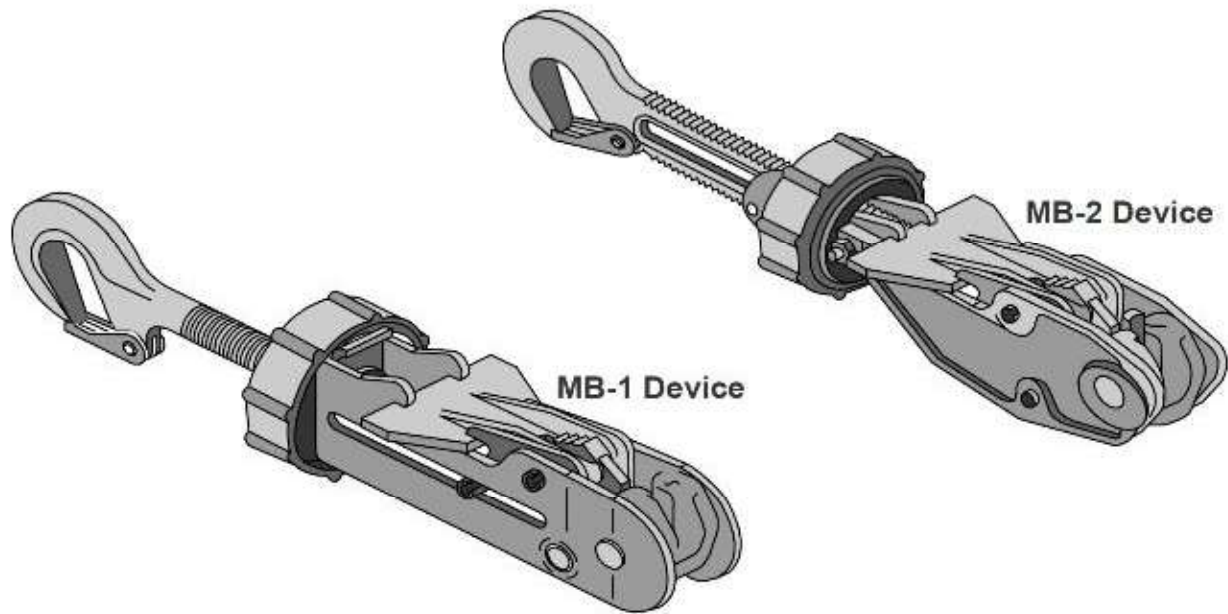

Figure 2-23 — Tie-down devices.
- Use chains and MB-1 or MB-2 tie-down devices, like those shown in *Figure 2-23*, for large items such as canned engines or palletized wheeled items. MB-1 has a tie-down capacity of 10,000 pounds whereas MB-2 has a capacity of 25,000 pounds.